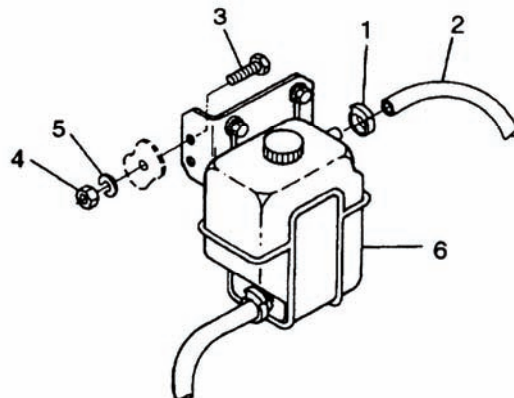

Figure 3-6. Overflow Bottle Assembly.
- k. Remove clamp (1, Figure 3-6) and disconnect hose (2) from overflow bottle assembly (6).
- l. Remove bolts (3), nuts (4), lock washers (5), and overflow bottle assembly (6) from left side of engine. Discard lock washers (5).